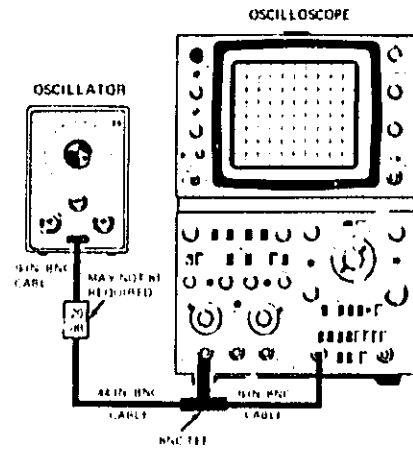

Figure 5-1. Main Trigger Test Setup
a. Connect equipment as shown in figure 5-1.
- a. Connect equipment as shown in figure 5-1.